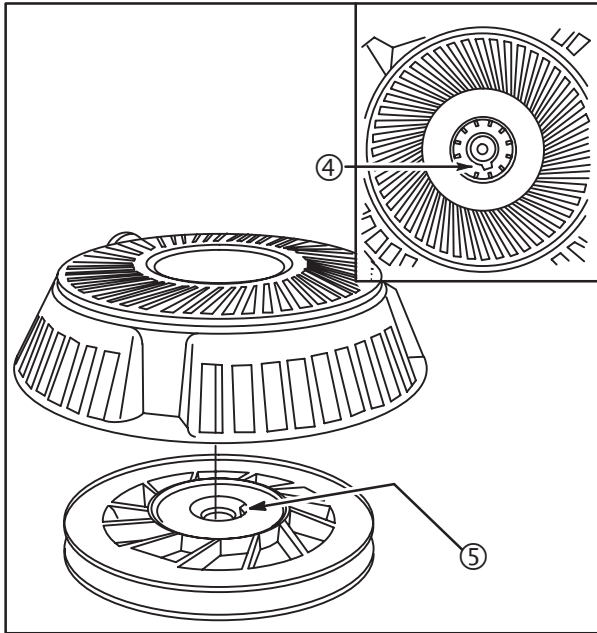

Fig. 70
2. Note location of spring tab (5) and location of spring anchor (4) on center post of starter housing.
3. Lower starter housing onto pulley and spring assembly, **Fig. 70**.